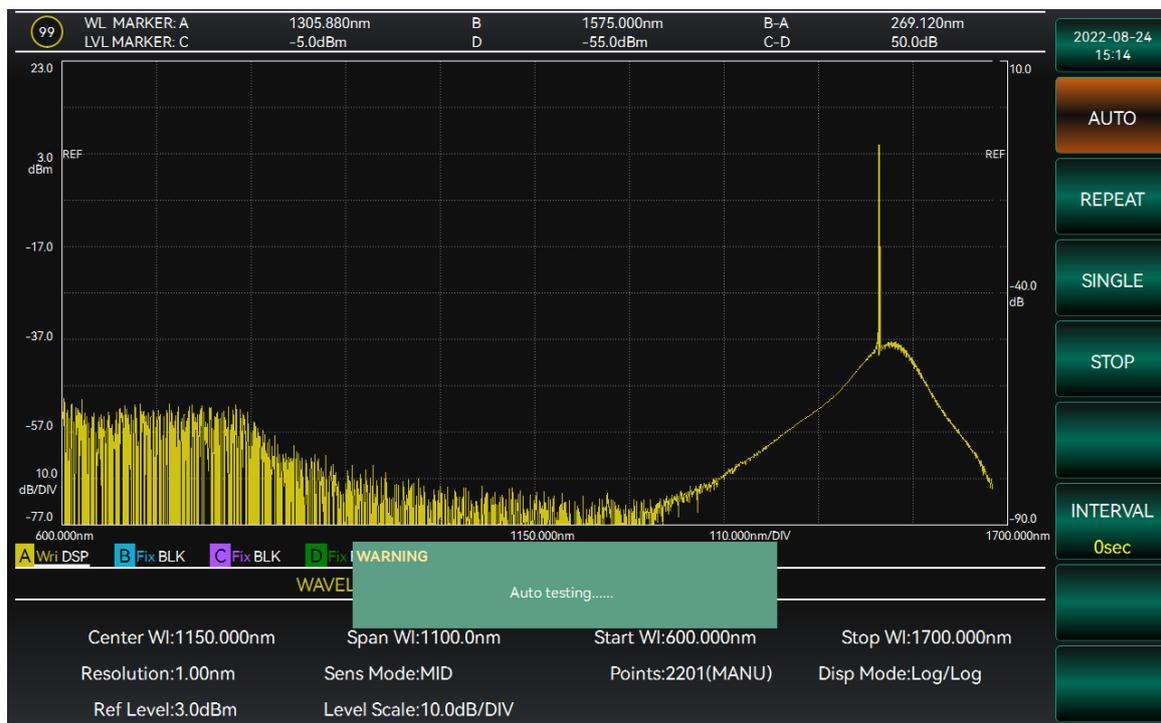
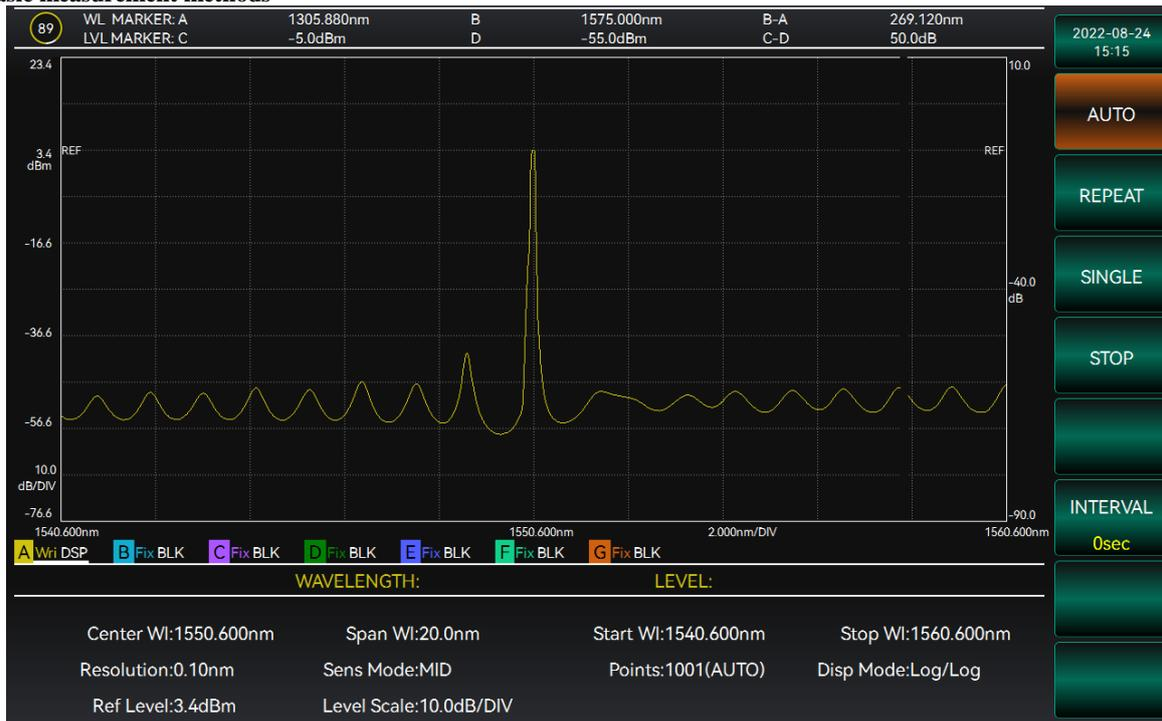

Figure 3-11 Auto-sweep start
Figure 3-12 Auto-sweep end
2. Select [Auto Swp] to start sweeping. Figure 3-11 below shows the display results after the first full-band range sweep of the auto-sweep, and Figure 3-12 shows the display after the end of the auto-sweep.